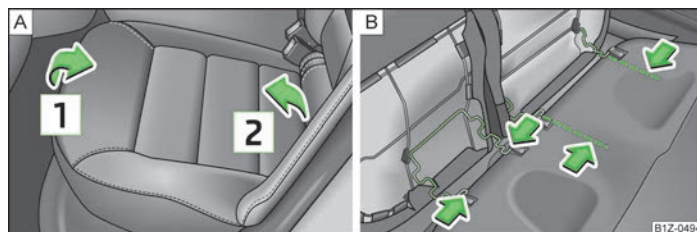

Fig. 47 Removing the seats
- Pull up the seat cushion in the direction of the arrow **1** » Fig. 47 and fold forwards in the direction of the arrow **2**.
- Press the wire clamps in the direction of the arrow » Fig. 47 - B and remove the seat cushion from its holder.
- Press the wire clamp in the direction of the arrow » Fig. 47 - B and put it into the holder.